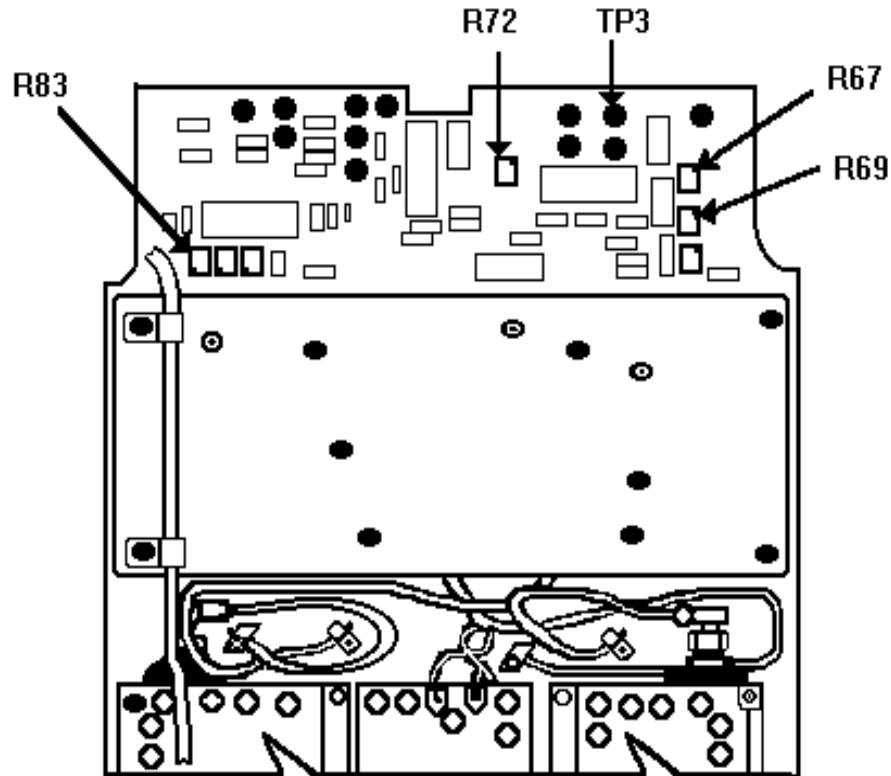

Figure. 13. Receiver card layout.
(13) If RF power output level of the radar test set (at the just solid waveform point) including insertion loss of circulator and cable, is not between 2 to 4 dBm greater than (8) above, perform **b(3)** and (4) below.
(14) Remove oscilloscope test probe from TJ 29 of control box and connect to TP3 (fig. 13) of the receiver card.
- (1) Adjust radar test set RF power output to include insertion loss of circulator and cable values for a level as close to -24 dBm as possible at TI SUM connector input.
- (2) Adjust R67 (fig. 13) until waveform (fig. 6, inset H) is at the just solid point.
- (3) Adjust radar test set RF power output to include insertion loss of circulator and cable values for a level as close to -21 dBm as possible at TI SUM connector input.
- (4) Adjust R69 (fig. 13) until waveform (fig. 6, inset I) is at the just solid point.
- (5) Adjust radar test set RF power output to include insertion loss of circulator and cable values for a level as close to - 11 dBm as possible at TI SUM connector input.
- (6) Adjust R72 (fig. 13) until waveform (fig. 6, inset J) is at the just solid point.
- (1) Adjust radar test set **MAIN FREQ** (menu 10) to **1087 MHz**.
- (2) Adjust R83 (fig. 13) until pulse has just appeared on oscilloscope display (R).